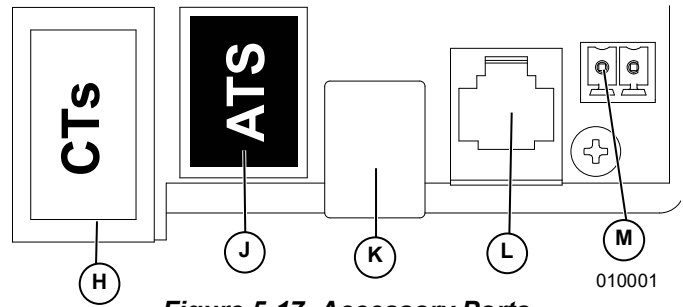

Figure 5-17. Accessory Ports
2. See **Figure 5-17**. Connect Cat 5 / Cat 6 cable to a CTs accessory port (H).